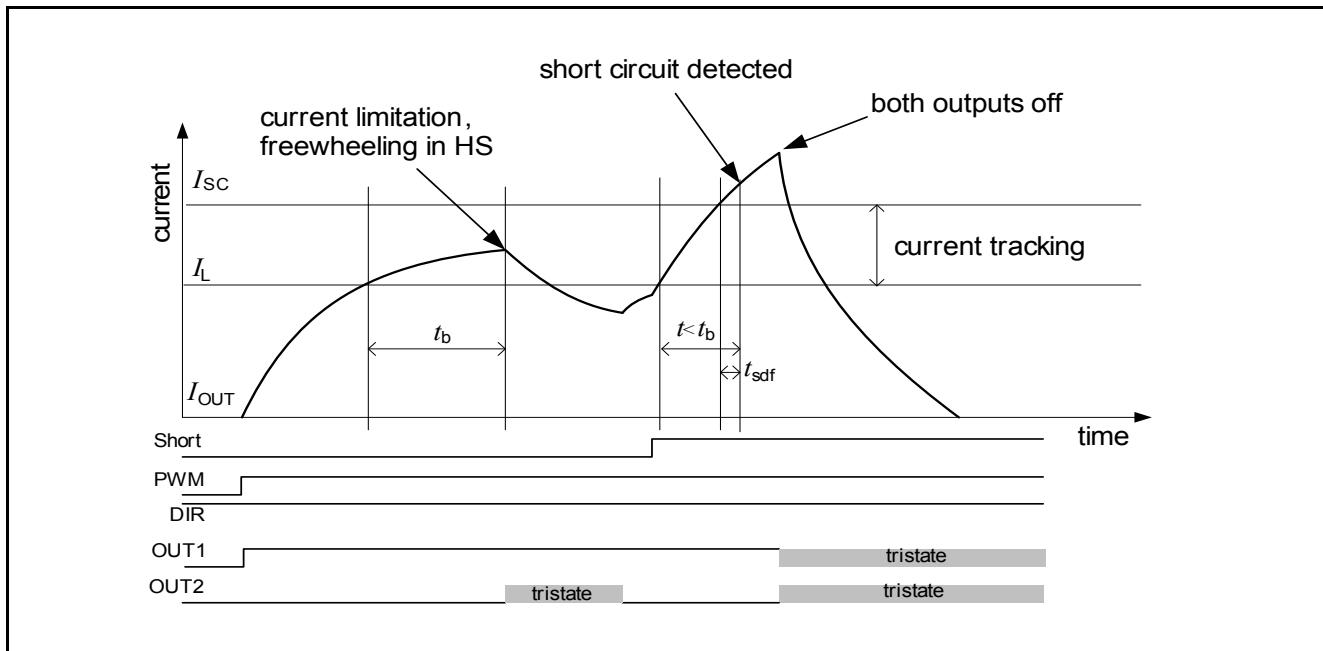

**Figure 4-3 Chopper Current Limitation**
**Figure 4-3** shows the behavior of the current limitation for over current detection in HS1. It applies accordingly also for HS2.